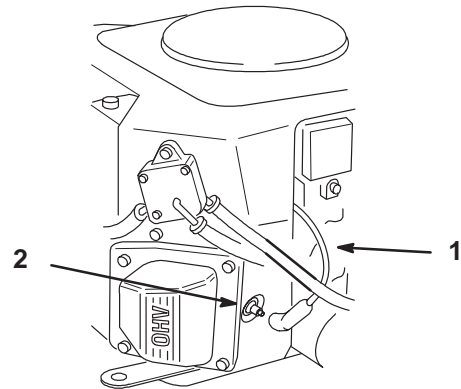

Figure 34
2. Pull the wire(s) off of the spark plug(s) (Fig. 34). Clean around the spark plug(s) to prevent dirt from falling into the engine and potentially causing damage.
- Push the wire(s) onto the spark plug(s) (Fig. 34).